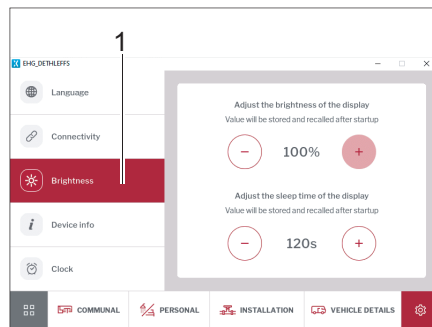

Fig. 272 Brightness
- Click on the *Brightness* (Fig. 272,1) button.